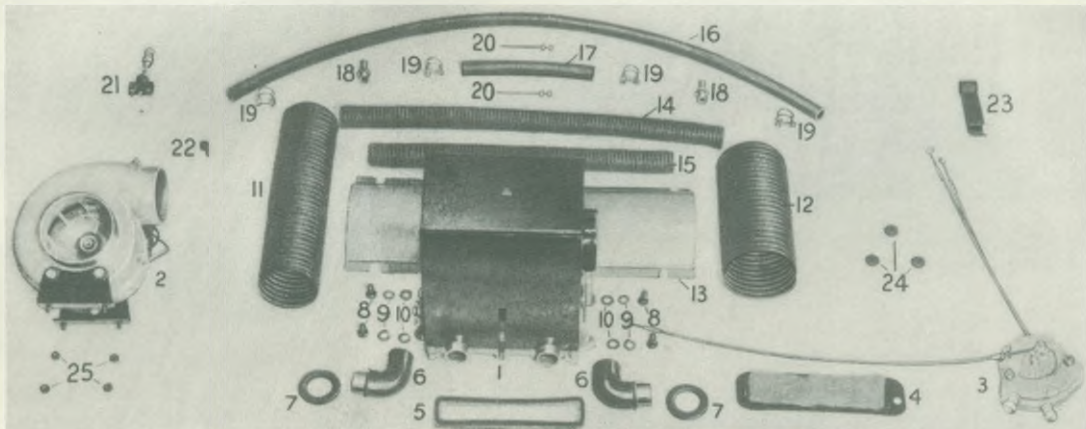

Fig. 33. Exploded view of details for 2 K.W. Unit
portion of the aperture revealed by the removal of this plate, will necessitate the ultimate installation of the plate (4) and packing shown in Fig. 33.